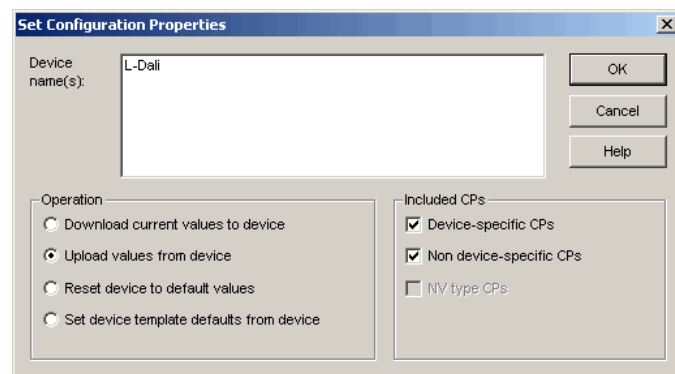

Figure 96: Set Configuration Properties in LonMaker TE.
2. This opens the dialog shown in Figure 96.